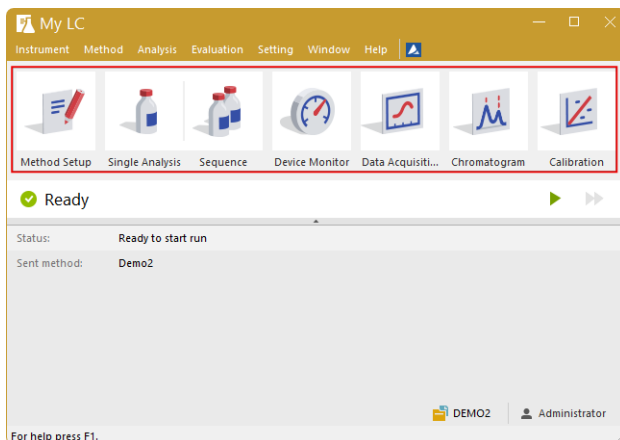

Fig. 12: Instrument window
The *Instrument* window will open. **Fig. 12** on pg. **21**. shows the most important icons in the *Instrument* window. During the tour, we will review all windows belonging to these icons.
- In the **Instrument** window look at the **Status line** (see Fig. 12 on pg. 21.). The acquisition is now signaled by the **RUNNING** state and the actual run time is shown there.
- To see the data acquisition in process and control it if necessary, click the **Data Acquisition**  icon (see Fig. 12 on pg. 21.) to open the **Data Acquisition** window.
- Depending on your Instrument's configuration, one or more signals may be displayed. The number of detectors (signals) and their names can be seen in the upper right corner of the graph ①.